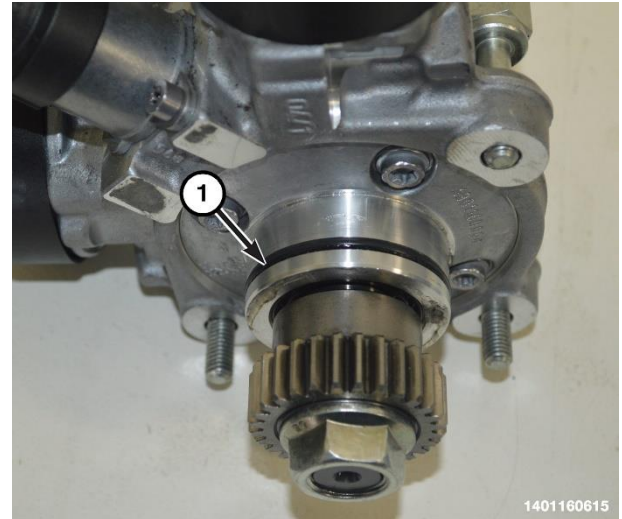

Figure 200 – O-ring
- 45. Install a **NEW** O-ring to the high-pressure fuel injection pump (Figure 200).